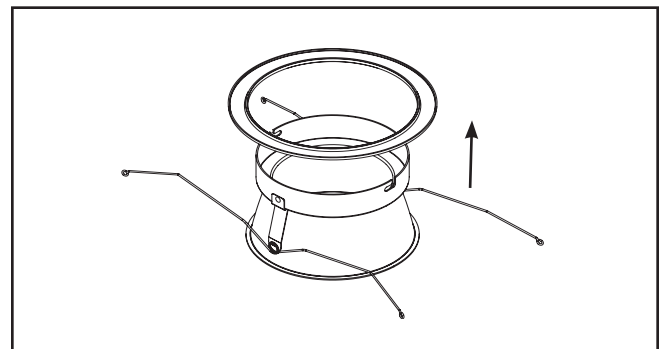

Figure 4.
1. Remove lower trim from protective packaging. Remove plastic and discard trim ring. Remove LED Engine from protective packaging (Figure 4.).